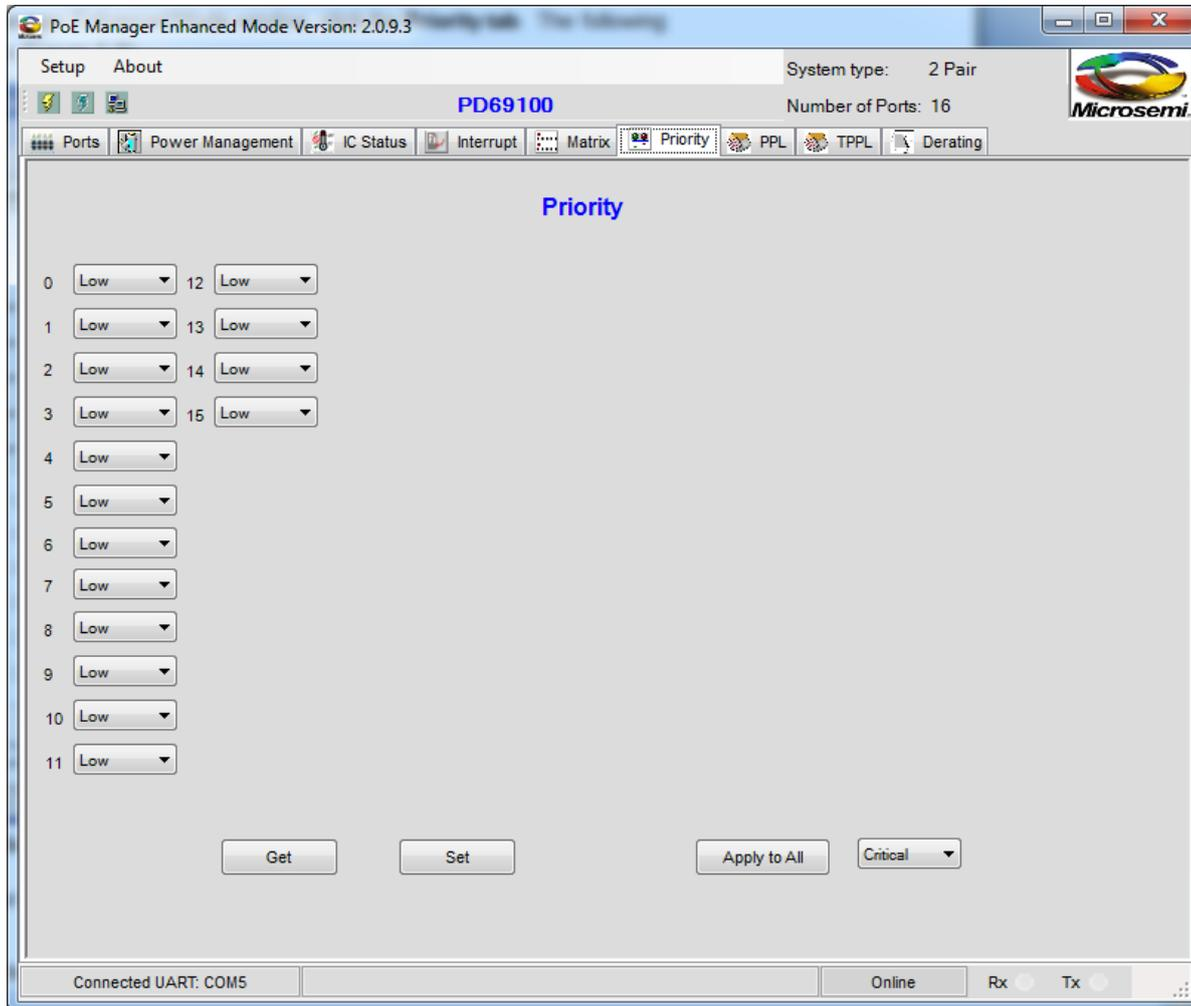

Figure 5-8: PoE Manager Enhanced Mode Window, Priority Tab (EMO)
- On the PoE Manager Enhanced Mode window click the **Priority tab**. The following screen appears (Figure 5-8):